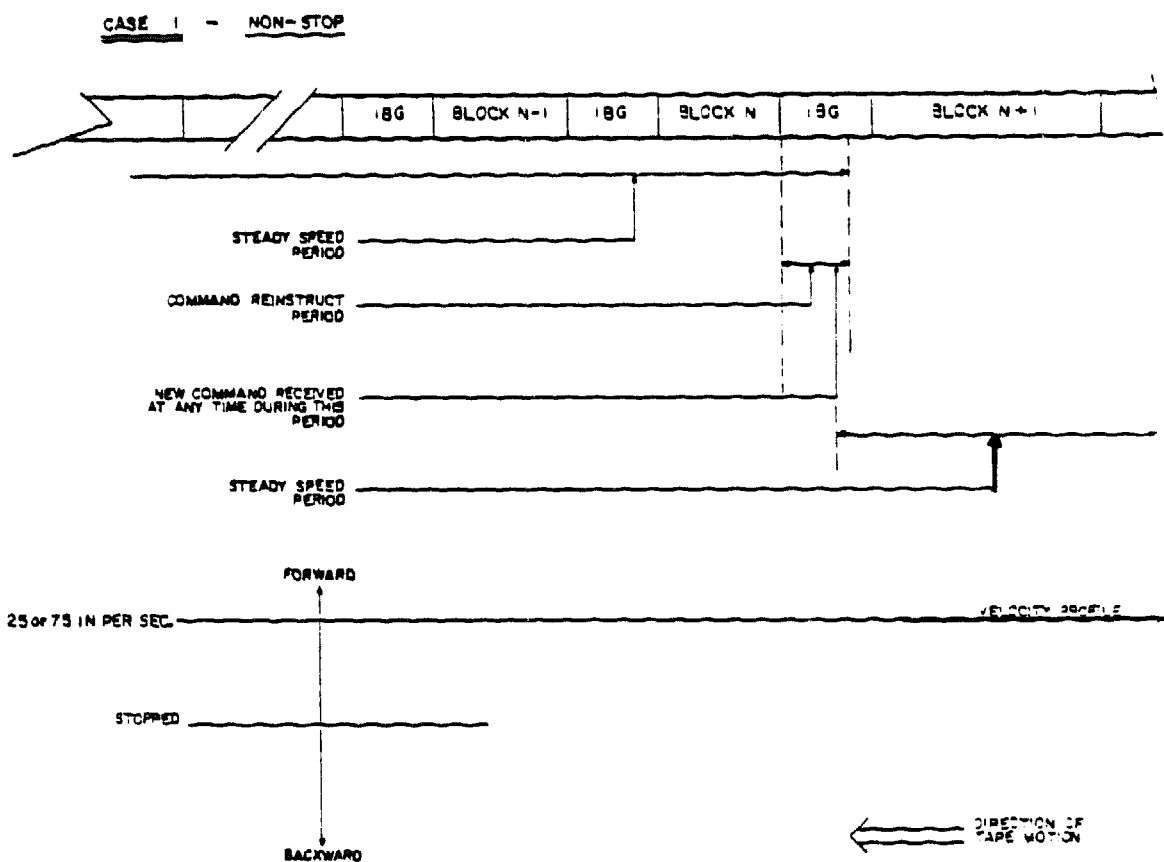

Figure 4-39. TAPE MOTION CONTROL - Case 1
4.11.3.1 Case 1 (Non-Stop) - Command Received During Reinstruction Interval. A command is received sometime during the command reinstruct period following the data operation on Block N. Note that the velocity profile at the bottom of the figure indicates that full velocity is maintained without interruption through the processing of Block N and N + 1 (see Figure 4-39).